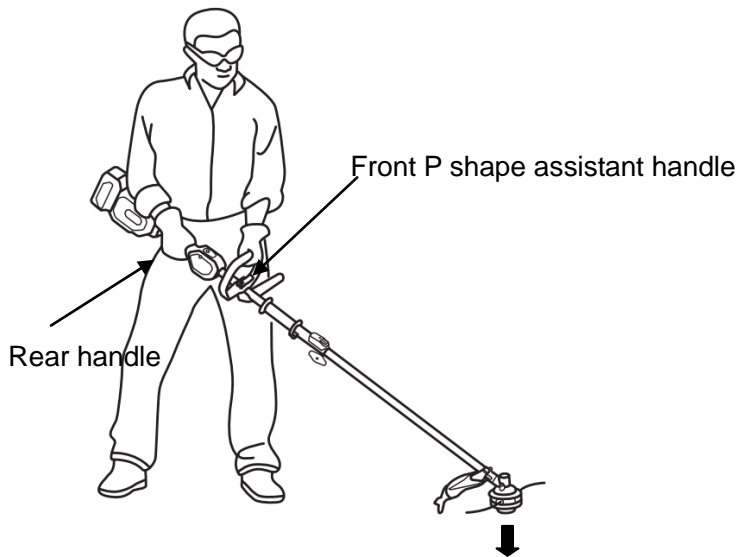

Fig.11
**⚠ NOTICE:** Clear the area to be cut before each use. Remove all objects, such as rocks, broken glass, nails, wire, or string, that can be thrown or become entangled in the cutting attachment. Clear the area of children, bystanders, and pets. At a minimum, keep all children, bystanders and pets at least 100 feet (30.5m) away; Hold the string trimmer with one hand on the rear handle and your other hand on the front 'P' shape assistant handle. Keep a firm grip with both hands while operating the tool. The trimmer head should be parallel to the ground so that it easily contacts the material to be cut without the operator bending over. (Fig.11)